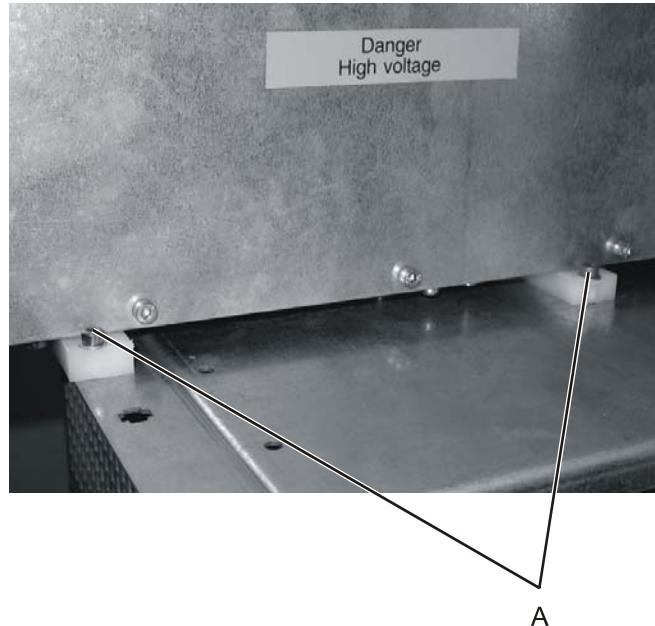

Figure 74: Screws securing HV power supply
8. Use the 3 mm allen key to unscrew the two screws securing the HV power supply (see Figure 74, A).